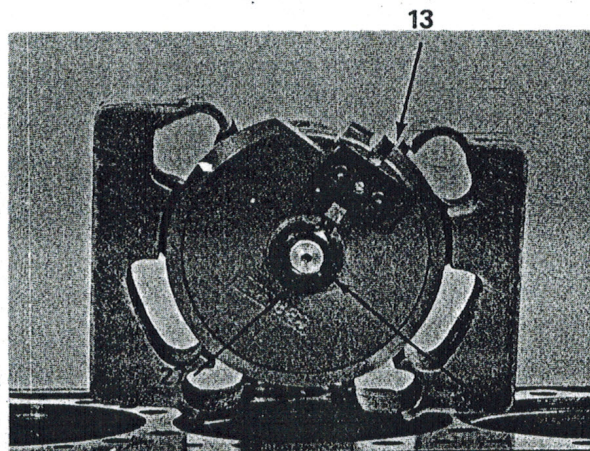

Fig. 4 Attaching the Cutter Plate
2. Assemble cutter plate (10 or 32) on shaft of the main housing (1) and secure with nut (26) and washer (27). See Fig. 4.